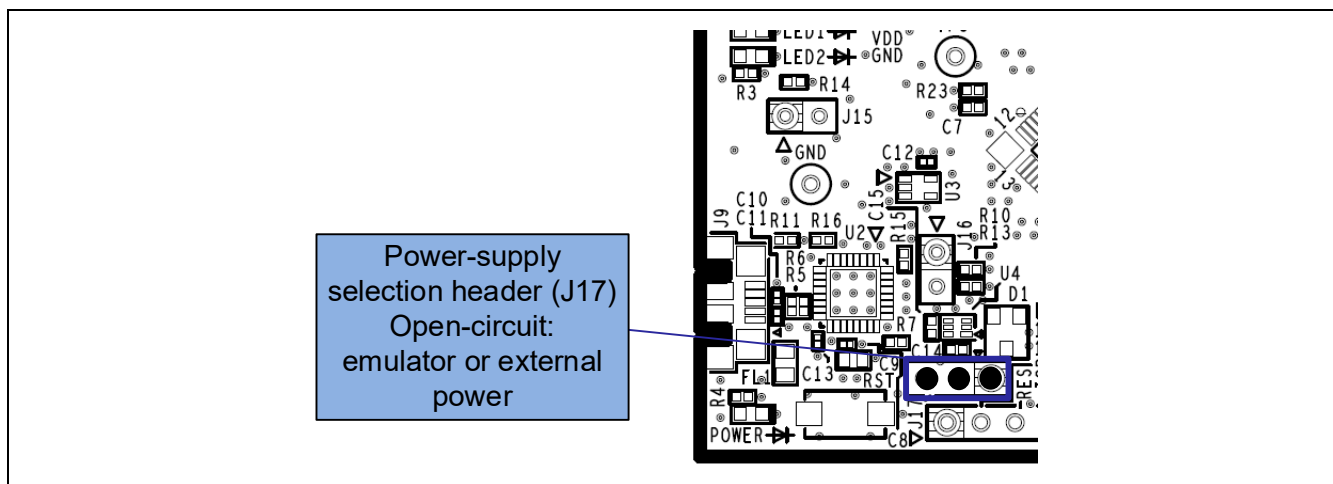

Figure 5-7 Setting of the Header to Select Supply from the Emulator or External Power (Top Side)
- J17 being open-circuit selects supply from the emulator or external power. (Figure 5-7).